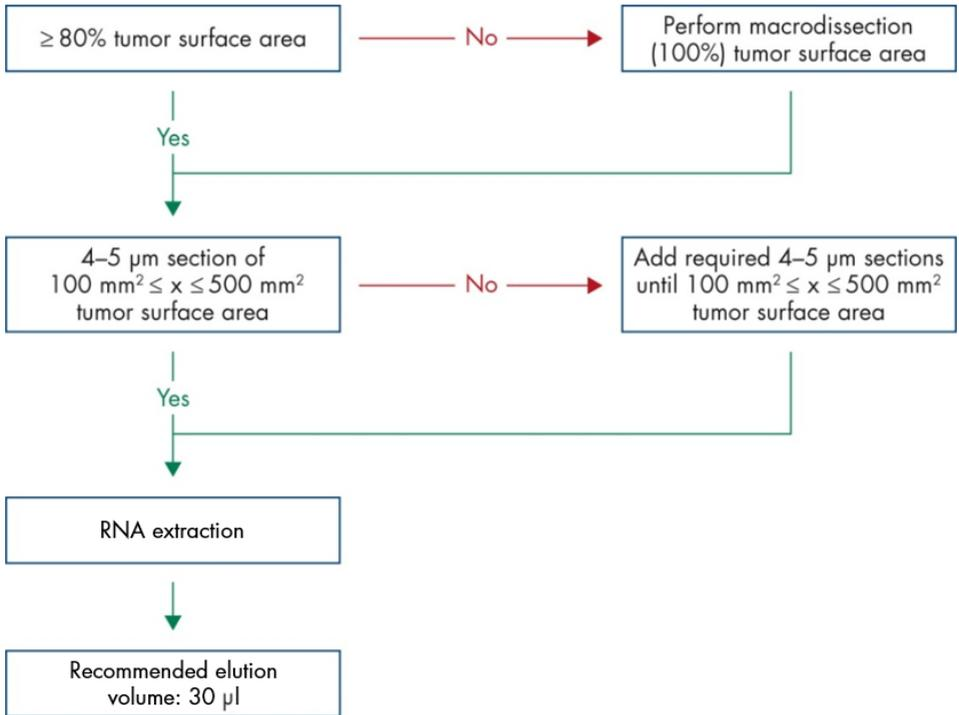

Figure 3. Recommended clinical FFPE UC sample purification workflow to be used with the FGFR RGQ RT-PCR System.
- The recommended FFPE input is equivalent to a 4–5 μm slide thickness with a total tumor surface area between 100 mm^2 and 500 mm^2 (inclusive). This can be created by combining material from multiple slides (Figure 3).